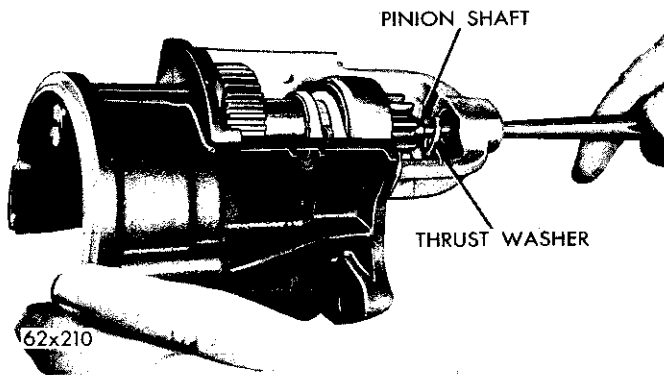
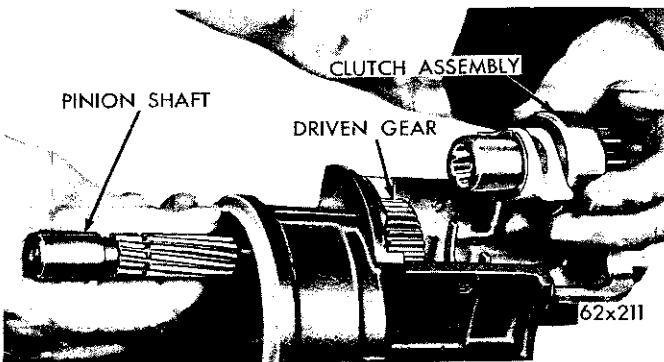

Fig. 10—Removing the Pinion Shaft
Fig. 11—Removing or Installing the Clutch Assembly
(19) Push the pinion shaft towards the rear of the housing (Fig. 10) and remove the snap ring and thrust washers, clutch and pinion assembly, with the two shifter fork nylon actuators as on assembly (Fig. 11).